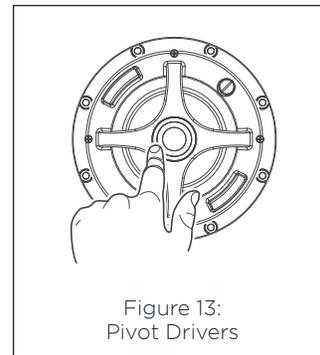

Figure 13:
- Sonance Professional Series loudspeakers have a pivoting tweeter assembly, allowing the treble to be directed to the most suitable location if the speaker is installed off-axis. To pivot the drivers apply light pressure to the ring around the outside edge of the tweeter cone. Take care not to touch or apply pressure to the cone itself (see Figure 13).